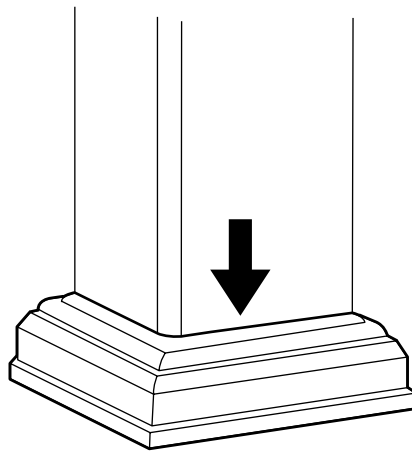

Fig. 1
- If using cove moulding, slide the post down into the cove moulding prior to securing any railings (Fig. 1).